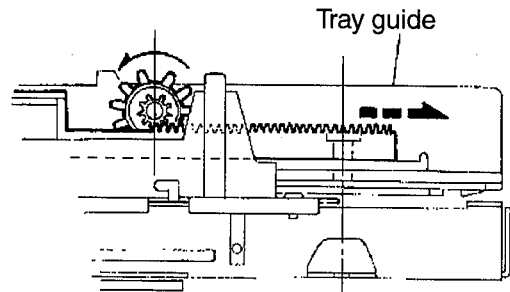

Fig.6
- After aligning the slide cam R as shown in Fig.6 (See "Removing Step 2"), mount the top cover and fix the mechanism with screws.